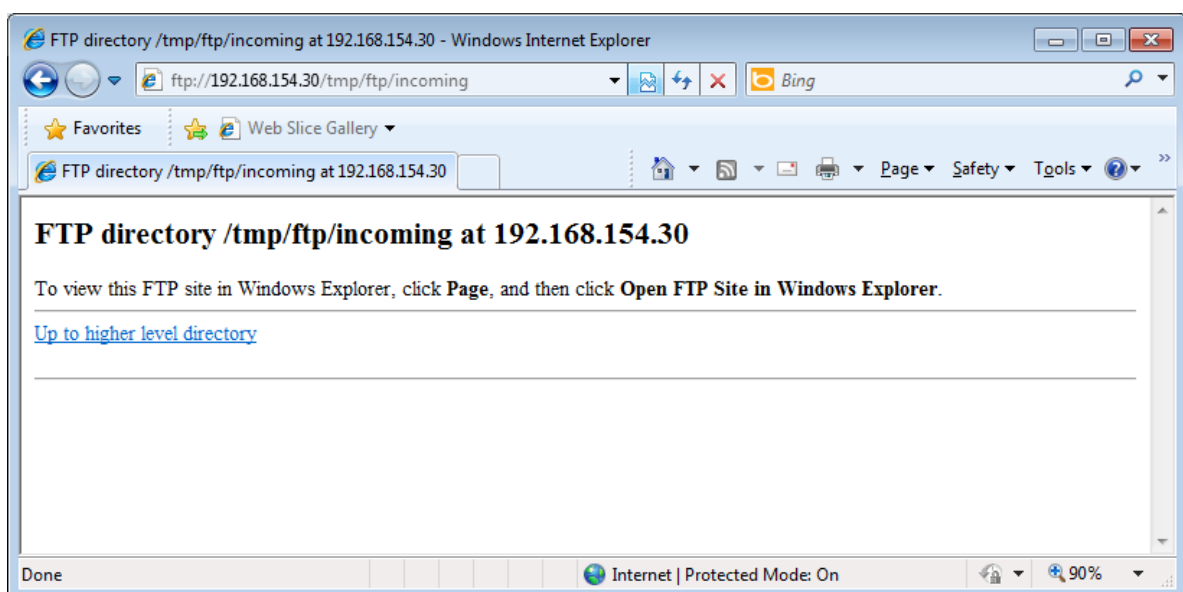

figure7: FTP site in Internet Explorer (uploads are not supported)
- Before loading software to the FTP site, select the window from “figure7: FTP site in Internet Explorer (uploads are not supported)”.